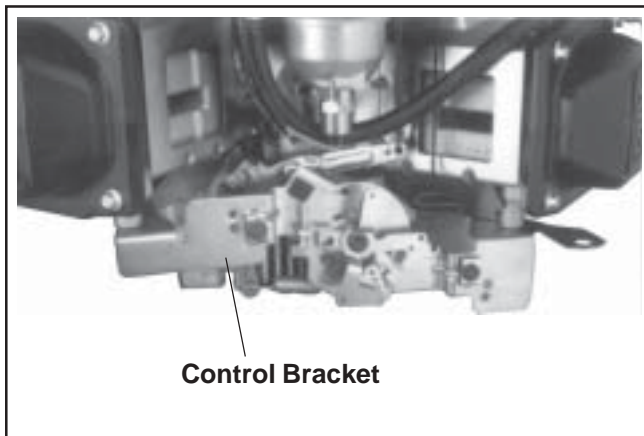

Figure 9-18. Removing Control Bracket.
1. Remove the four hex flange screws securing the throttle control bracket and lower air cleaner bracket (some models), to the cylinder heads. See Figures 9-18 and 9-19.